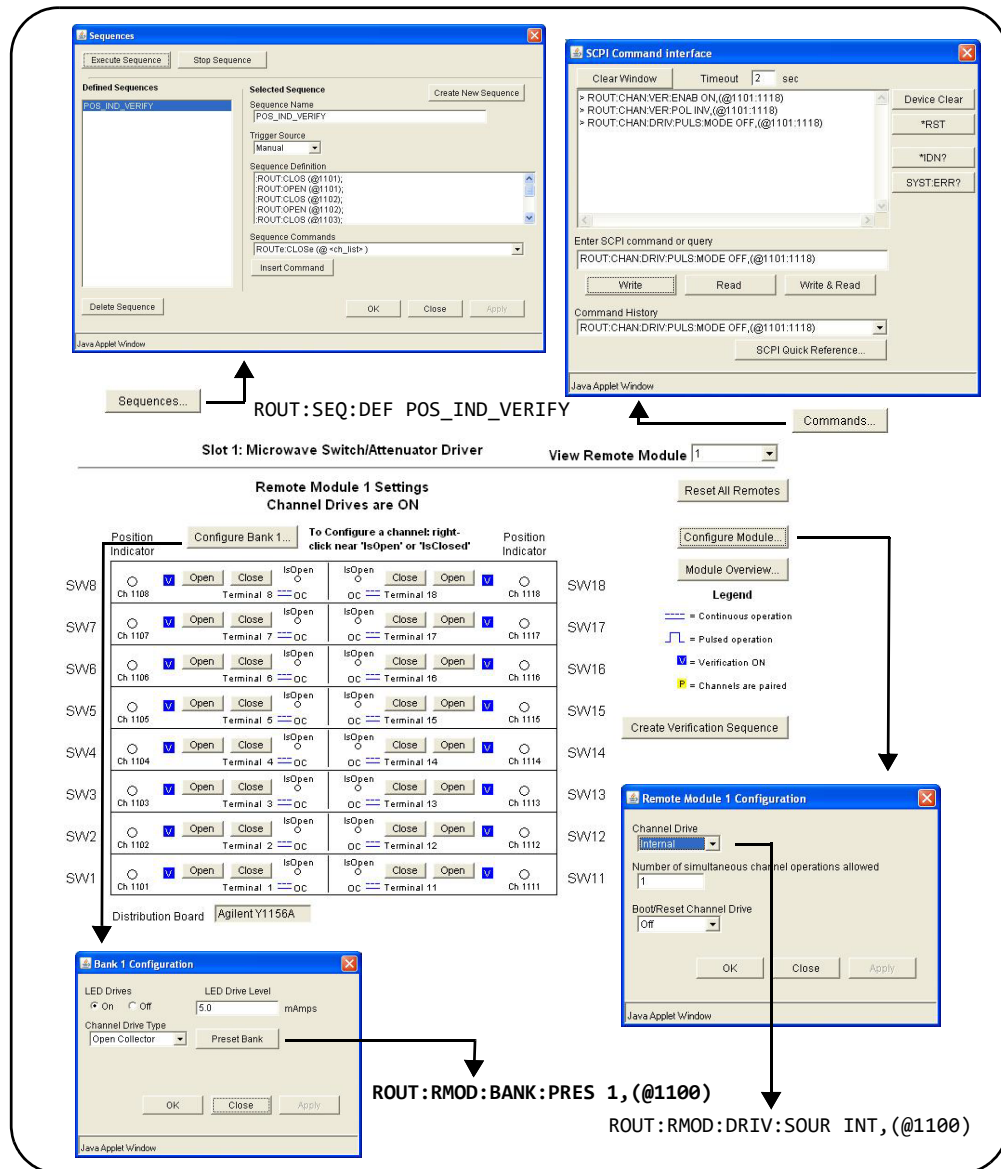

Figure 4-9 Using the Y1156A for Position Indicator Verification.
- 4 In the 'Browser Web Control' window, locate the bank and Y1156A programming diagram. An example of the diagram is shown in Figure 4-9. For this example, the 34945A is installed in 34980A slot 1.
- 6 Open the 'SCPI Command Interface' window (Figure 4-9) and from the window, send the commands: